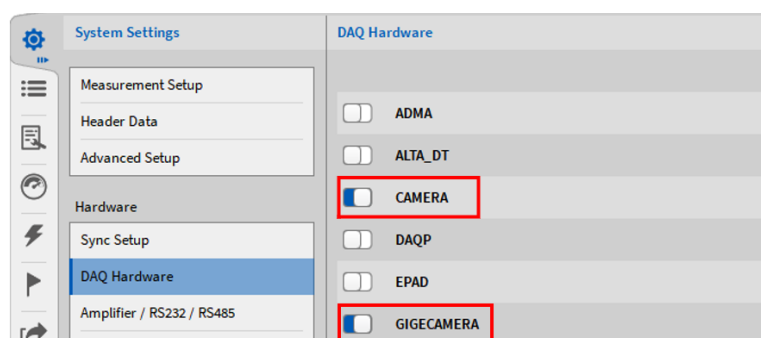

Fig. 8.87: Enabling the Camera Series and the GigE Camera series in the DAQ Hardware setup
**Note:** If the camera channel does not appear in the Channel List although a camera is connected to the measurement system, make sure that *CAMERA Series* for webcams or the *GIGECAMERA Series* for GigE cameras are enabled in the *DAQ Hardware* setup (see Fig. 8.87) in the *System Settings*.